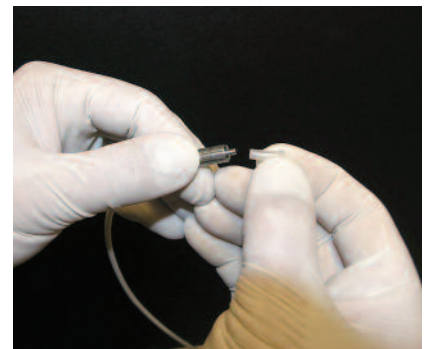

Fig 3.1.4b
2. If you have to disconnect the cable, keep the fiber tip connector of the handpiece and the connector on the bottom of your Odyssey Navigator clean. Use a protective plastic sleeve from a disposable tip to protect the end of the handpiece assembly at any time and be sure not to touch the precision polished end of the connector. Fig 3.1.4b